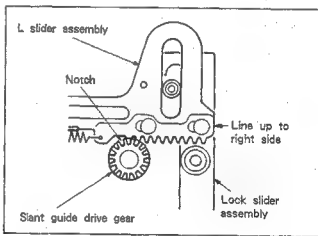

Fig. 7-27.
- 1 Operate the mode selector, and line up the right edge of the L slider assembly and the right edge of the lock slider assembly. (See Fig. 7-27.)
Note: At this time, confirm the engagement position of the slant guide drive gear and L slider assembly gear. (See Fig. 7-27.)